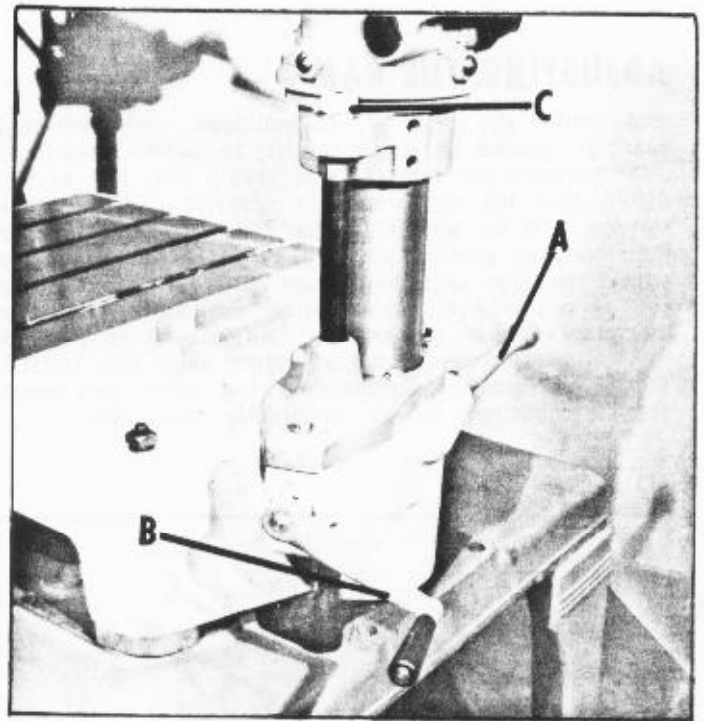

Fig. 14
The ram and drill head is raised or lowered by loosening the lock handle (A) Fig. 14, and turning the elevating crank (B). This mechanism is carefully tested at the factory, but if knocked or jarred during shipment it may be misaligned. This misalignment will cause the crank to operate stiffly and impose an unnecessary strain on the gears. The trouble can be eliminated simply by loosening the nut (C) Fig. 14, on top of the elevating screw, and turning the crank until the screw aligns itself. Tighten the nut (C) securely after correct alignment has been attained. DO NOT FORCE THE ELEVATING CRANK.